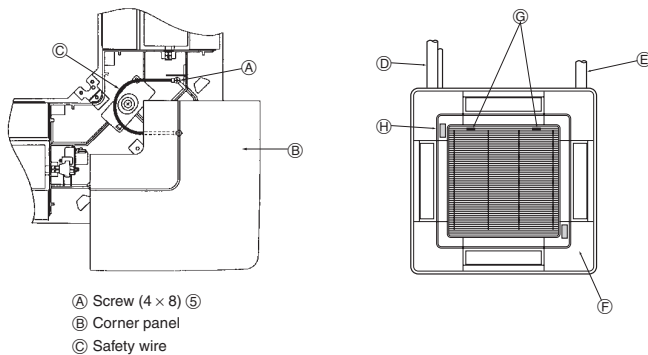

Fig. 9-11
9.8. Installing the intake grille (Fig. 9-11)